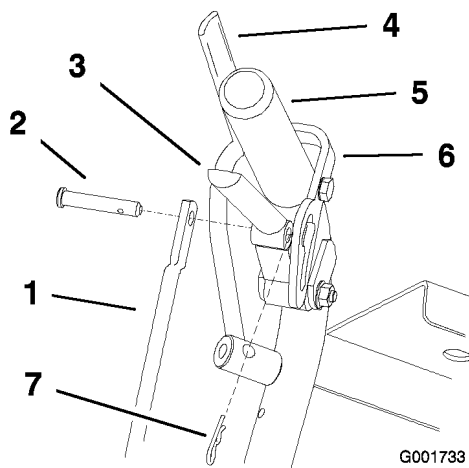

Figure 40
1. Adjust the rod length by releasing the drive lever and removing the hairpin cotter pin and clevis pin. Rotate the rod in the rod fitting (Figure 40).
4. Place the clevis pin into the drive lever (Figure 40).
- Install the hairpin cotter pin between the drive levers and the neutral locks and into the clevis pins (Figure 40).